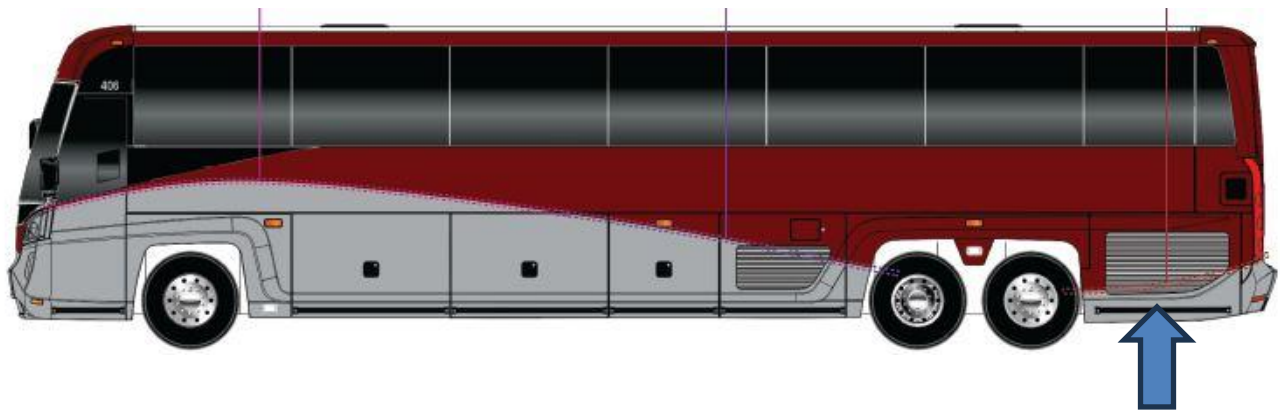

FIGURE 1: LOCATION OF THE RADIATOR DOOR ON COACH
3. Locate the radiator door on the rear side streetside of the coach. Refer to Figure 1.